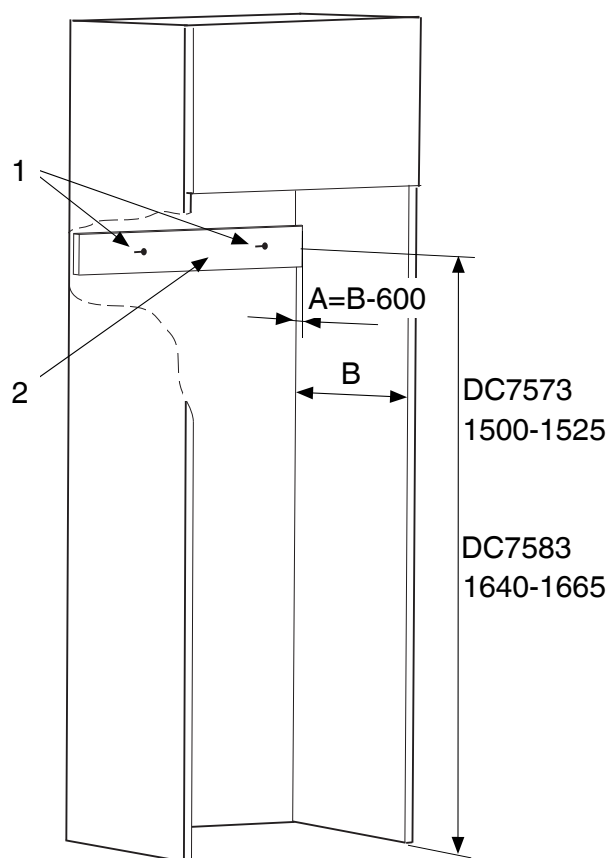
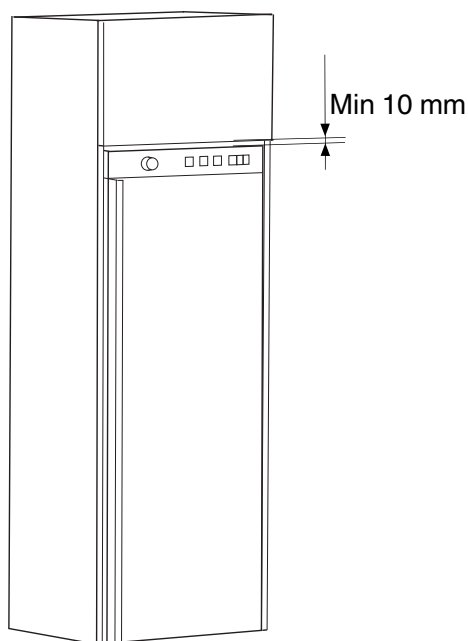

Figure 1
Figure 2
1. Measure the assembly depth "B" where the dryer cabinet is to be mounted (see figure 1).
2. If the assembly depth "B" is greater than 600 mm a wooden batten (2) with the thickness "A" must be cut. The wooden batten is not included in the delivery.
4. There should be an air gap of at least 10 mm above the dryer cabinet (see figure 2) in order to get optimum performance from the dryer cabinet.
8. Cut a wooden batten (2) with the thickness "A" and length between 500-575 mm. It must be as thick as the difference between the assembly depth "B" and 600 mm. If the assembly depth "B" is 620 mm then the batten thickness "A" must be 20 mm.
9. Screw the wooden batten into position with two screws (1) on the wall behind the dryer cabinet so that it is at the same height as the marked holes, as set out in point 6.
2. Loosen the hinge plate, see figure 1.